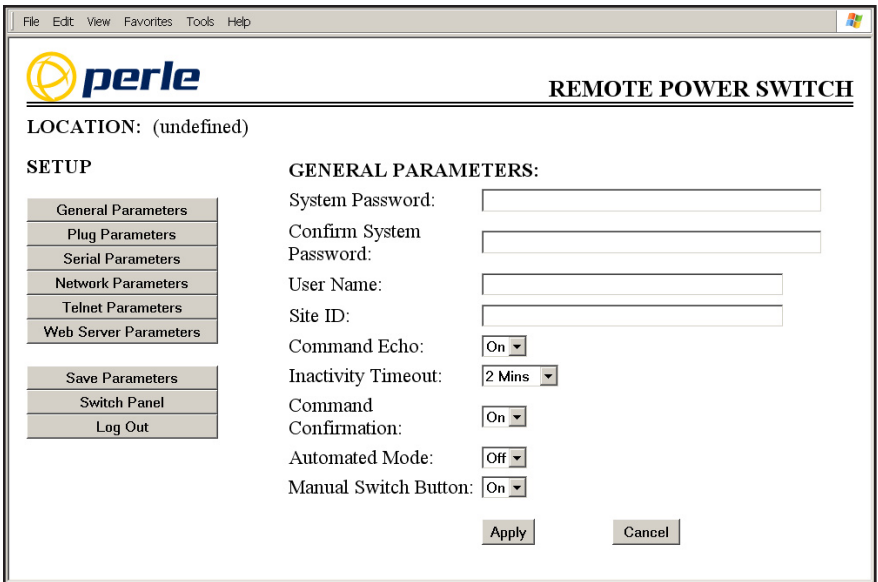

Figure 5.3: General Parameters Menu - Web Browser Interface
- **Web Browser Interface:** Click the "Setup" button to access the Setup Menu, and then click the "General Parameters" button. The General Parameters Menu will be displayed as shown in Figure 5.3.